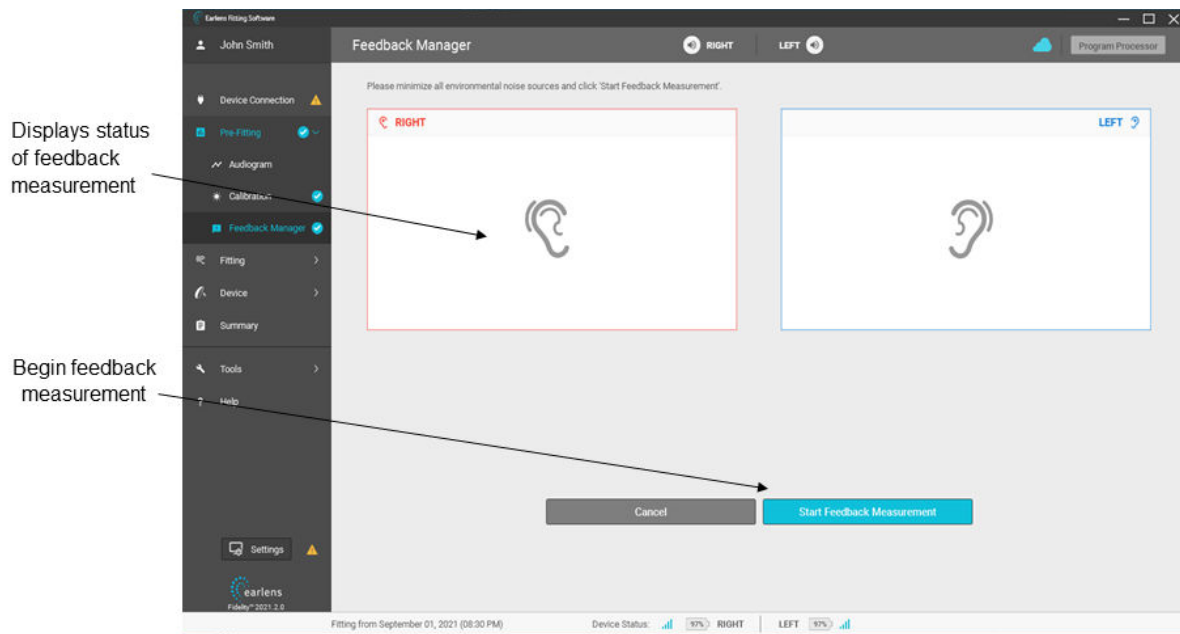

Figure 14: Feedback Manager screen
- Feedback Manager:** Present signal to measure feedback limits (Figure 14).